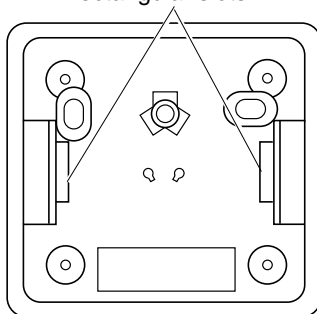

Figure 24- Back View of Thermostat Base
6. Feed the electrical wires through the rectangular slots (from the back) on each side of the base (see Figure 24).